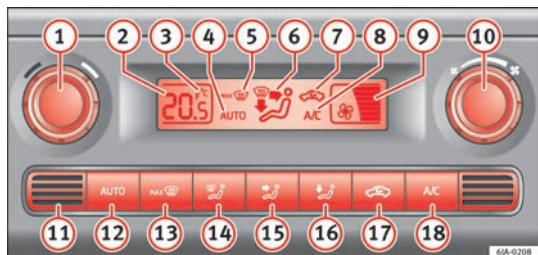

Fig. 88 Climatronic: controls.
- **A/C** **18** » **Fig. 88** » **page 94** switched on.
- Press the **AUTO** button **12** » **Fig. 88** » **page 94**.
Keep the **AUTO** and **A/C** » **Fig. 88** » **page 94** buttons pressed down at the same time. The data is displayed on the screen in the units required.
The interior temperature sensor ⑪ »» Fig. 88 »» page 94 is at the bottom. Do not cover it with stickers or the like, as this could have a negative effect on Climatronic operations.
- Adjust vents ③ »» page 88 and ④ so that the air flow is directed slightly upwards.
- Press the **AUTO** button ⑫ »» Fig. 88 and **AUTO** displayed on the screen.
- When you switch on the ignition, control  **1** » **Fig. 88** » **page 94** can be used to set the required interior temperature.
- Press button  **17** » **Fig. 88** » **page 94** and the  symbol is displayed on the screen.
- Press button  **17** » **Fig. 88** » **page 94** and the  symbol disappears from the screen.
- Turn rotary control  **10** » **Fig. 88** » **page 94** counter-clockwise (to lower the speed) or clockwise (to increase the speed).
- Press button  **13** » **Fig. 88** » **page 94**.
- Press button  **13** » **Fig. 88** » **page 94** several times or press the  button.